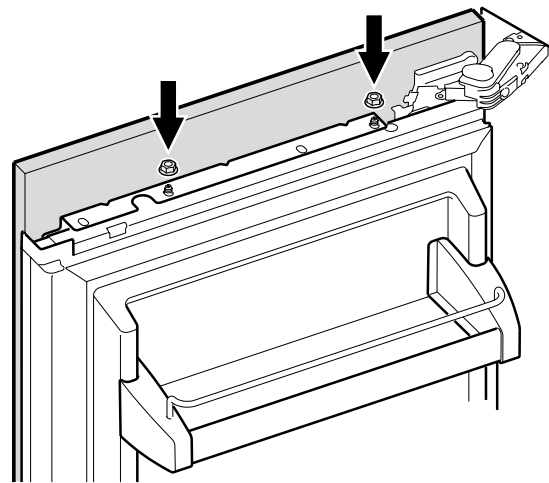

Figure 24
## Mounting the refrigerator door panels - Figures 24 - 33
1. Open the refrigerator door and hang the panel on the adjusting bolts (**Figure 24**).
2. Screw on the hex nuts to the adjusting bolts and finger tighten temporarily (**Figure 24**).